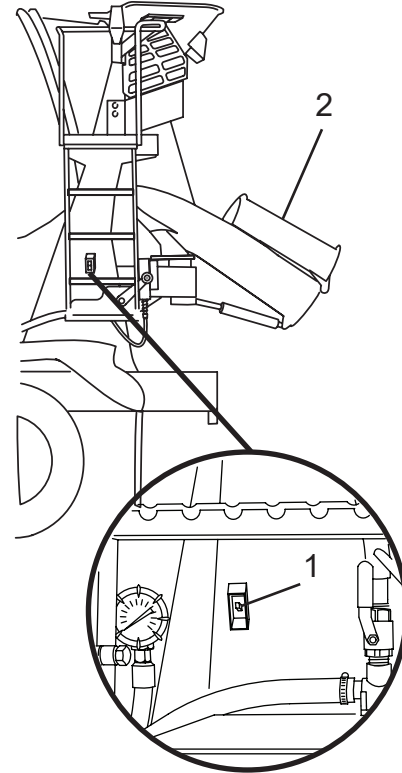

Figure 114
The hydraulic fold-over toggle switch (Figure 114, Item 1) enables the operator to fold or unfold the fold-over chute (Figure 114, Item 2) using a hydraulic cylinder.
3. Press and hold the fold-over toggle switch (Figure 114, Item 1) until the fold-over chute (Figure 114, Item 2) is fully seated against the main chute. Release the switch.
1. Press and hold the fold-over toggle switch (Figure 114, Item 1) until the fold-over chute (Figure 114, Item 2) is fully seated against the main chute. Release the switch.